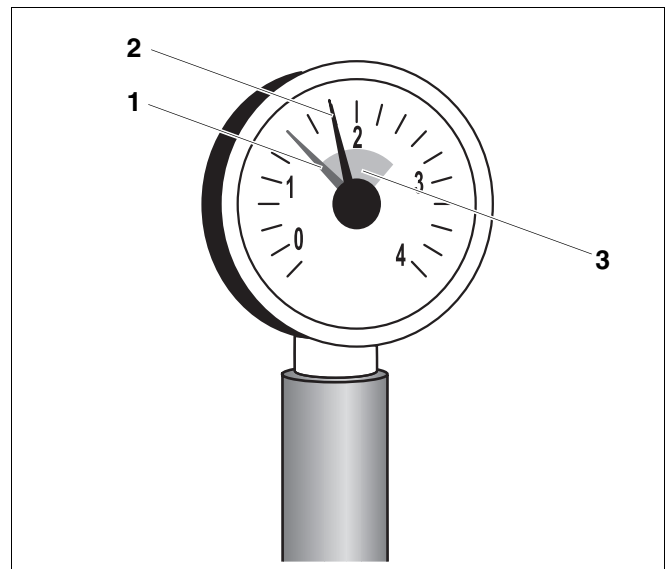

Fig. 6 Pressure gauge for **sealed systems**
On sealed systems the pressure gauge needle (Fig. 6, **item 2**) must be within the green range (Fig. 6, **item 3**). Set the red needle (Fig. 6, **item 1**) on the pressure gauge to the required system pressure.